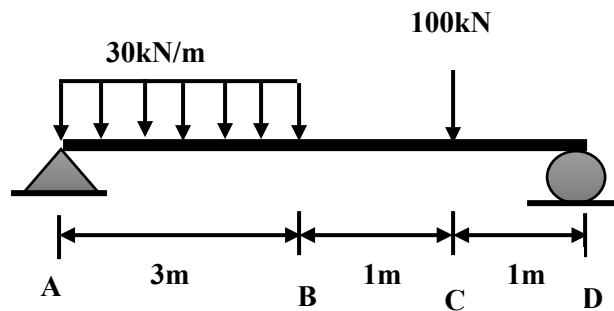

Figure 1(c) / *Rajah 1(c)*
- CLO1 (c) A beam is subjected to a set of loads as shown in Figure 1(c), calculates the reaction force in every support.